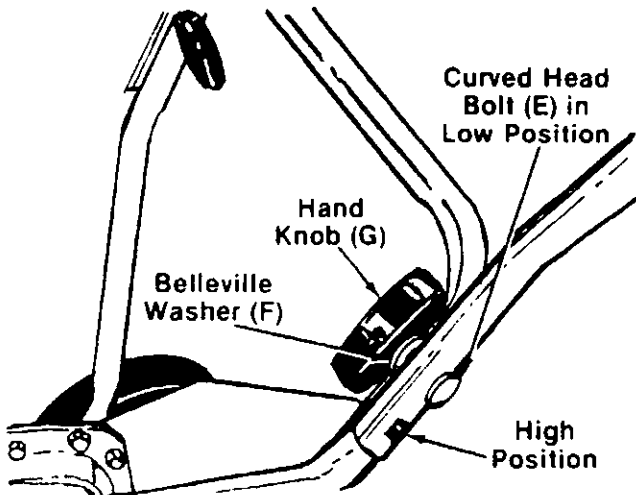

FIGURE 3.
3. There are two height positions for the upper handles. Place left hand upper handle (with clutch grip and cable support bracket already assembled) in position on lower handle, selecting hole for either high or low position. Secure with curved head bolt (E), belleville washer (F) (cupped side against the handle) and hand knob (G). See figure 3. Do not tighten at this time. Assemble right hand upper handle in the same manner.